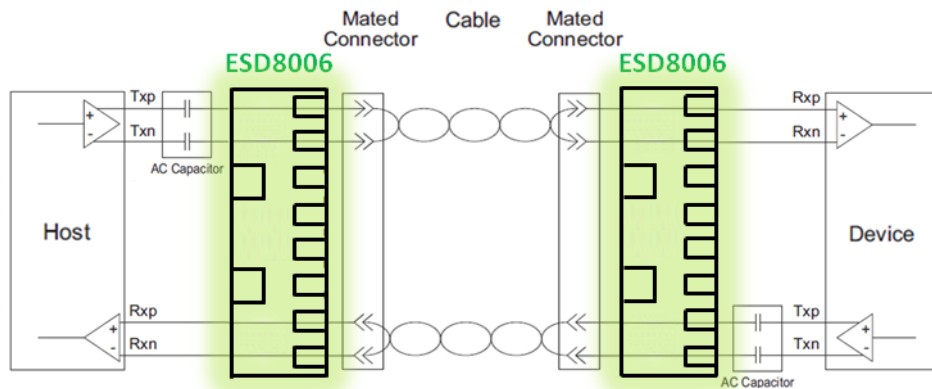

Figure 18. USB 3.0 Connection Diagram
- ◆ In USB 3.0 applications, the ESD protection device should be placed between the AC coupling capacitors and the I/O connector on the TX differential lanes as shown in Figure 18. In this configuration, no DC current can flow through the ESD protection device preventing any potential